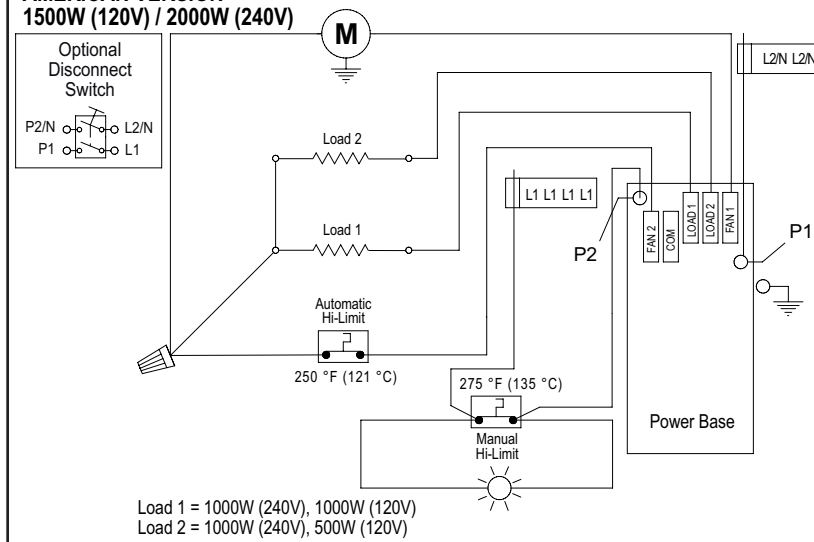

Fig. 5
- 10- Fix the plastic connector on the outlet located in the top of the front cover (Fig. 5).